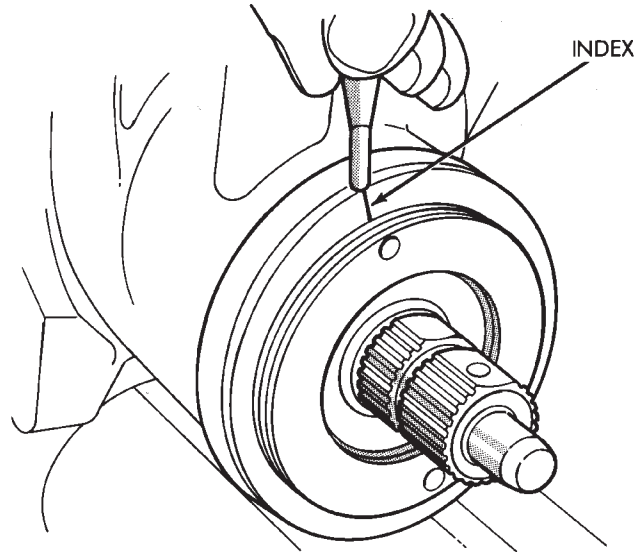

Fig. 28 Alignment Marking On Housing
- (3) Turn the adjuster in with Spanner Wrench C-4381. Tighten the plug and thrust bearing in the housing until firmly bottomed in housing.
- (4) Place an index mark on the housing even with one of the holes in adjuster plug (Fig. 28).